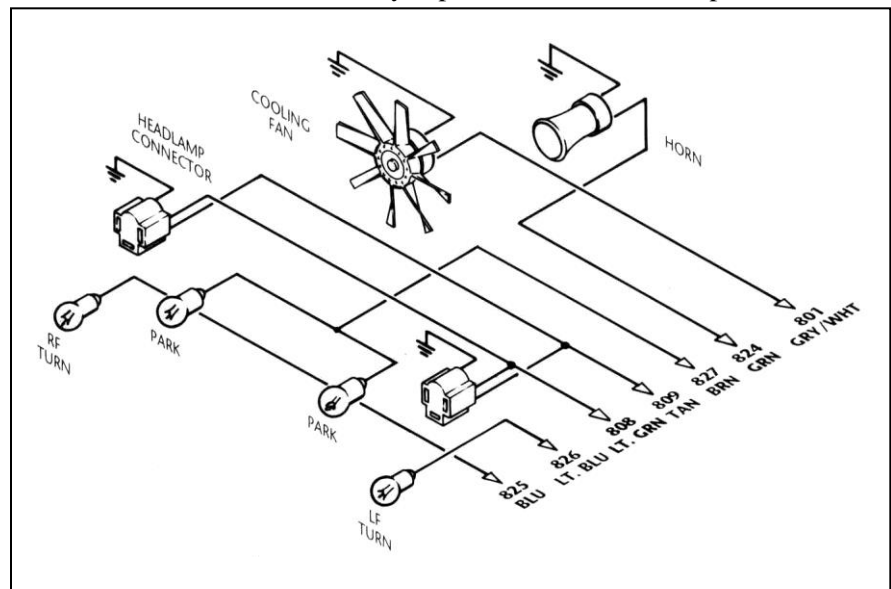

Figure 6.8 HEADLIGHT SECTION A Wiring
6.2.8 HEADLIGHT SECTION A. See Figure 6.8.